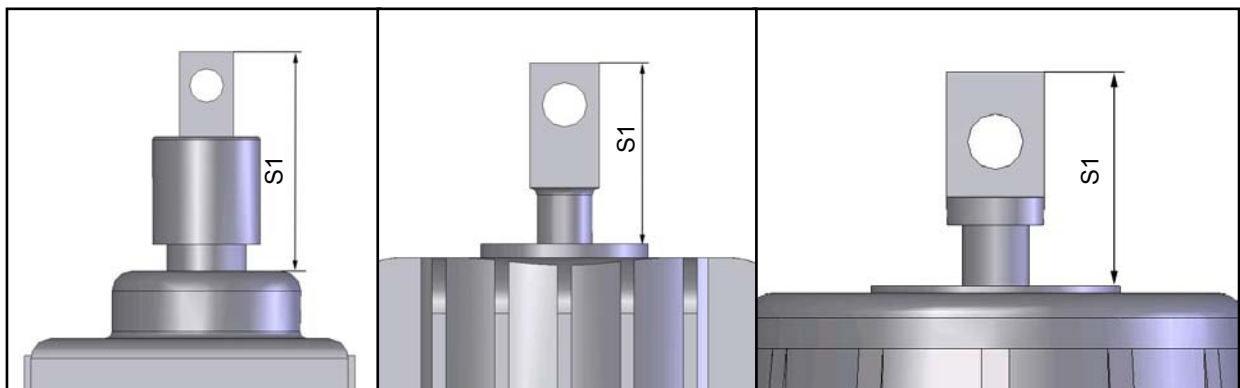

Fig. 4: piston rods of the different ELDRO-thrusters
- Measure  $S_1$  (Fig. 4) with brake closed.
- Turn Nut (2.14) **clockwise** until the piston rod of the thruster (Fig. 4) has reached the necessary value for S1 (table 1).
- Turn Nut (2.14) **counterclockwise** until the piston rod of the thruster (Fig. 4) has reached the necessary value for S1 (table 1).